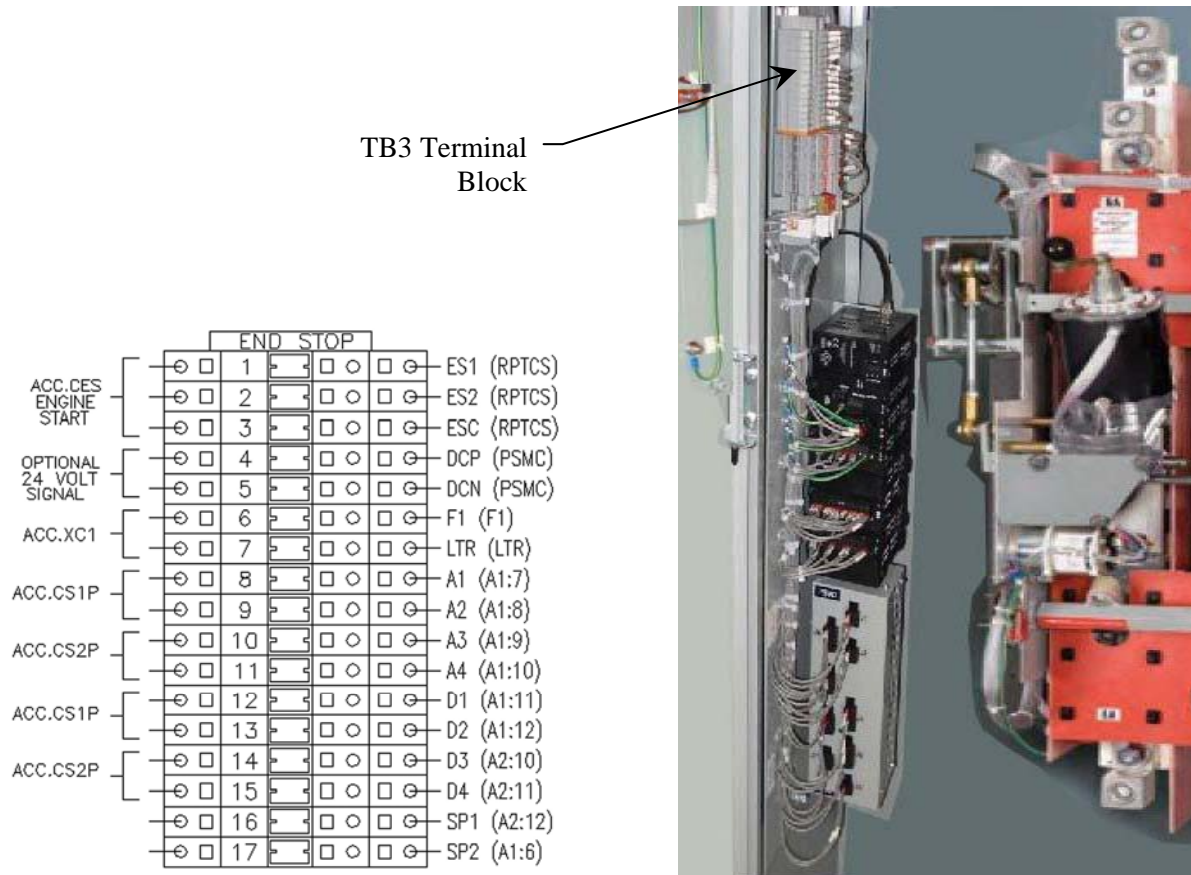

Figure 13: Locate the TB3 Terminal Block
1. Locate the customer control terminal block TB3 (Figure 13) located behind the upper door.